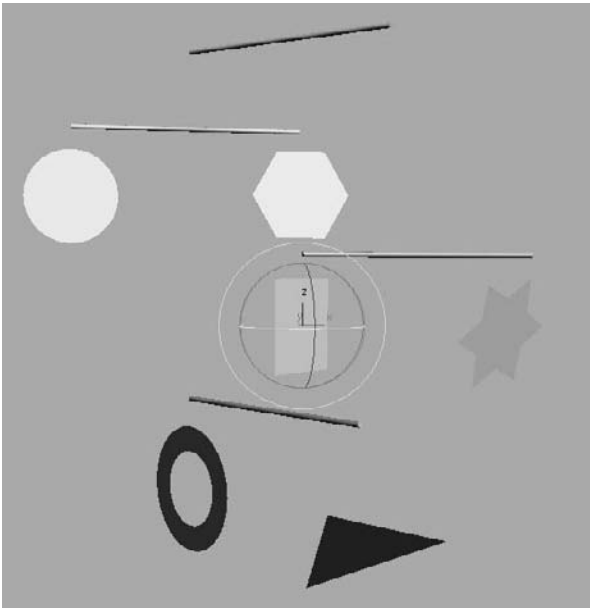

Figure 8.7
- The square and the bar linked beneath it should snap back into axis. Scrub the animation, and you'll see that the square and the bar beneath it are not behaving as you would expect: They are rotating on the Z-axis only, as they should. Figure 8.7 shows the resulting animation. Notice that the star and triangle are still rotating off axis.